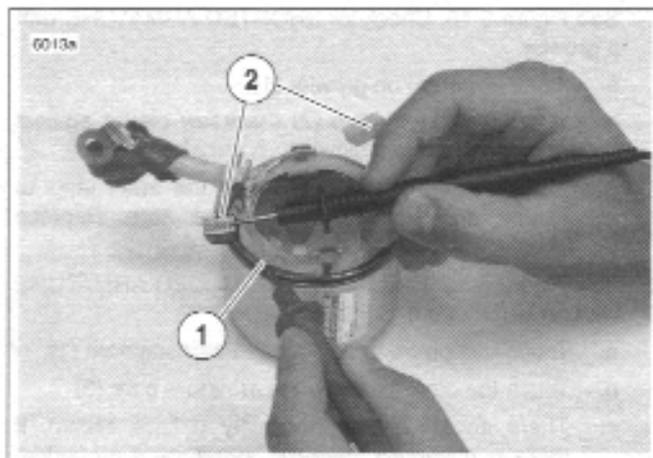
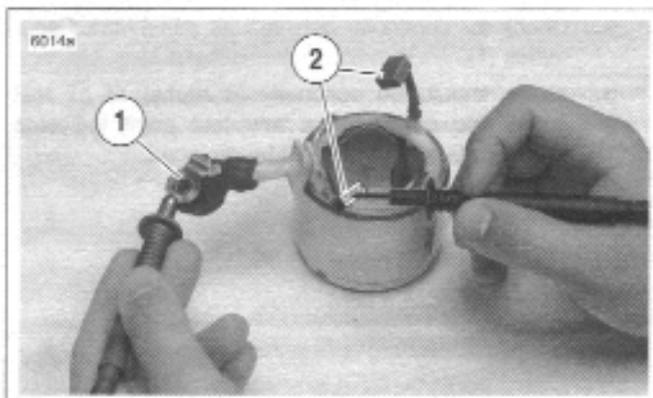
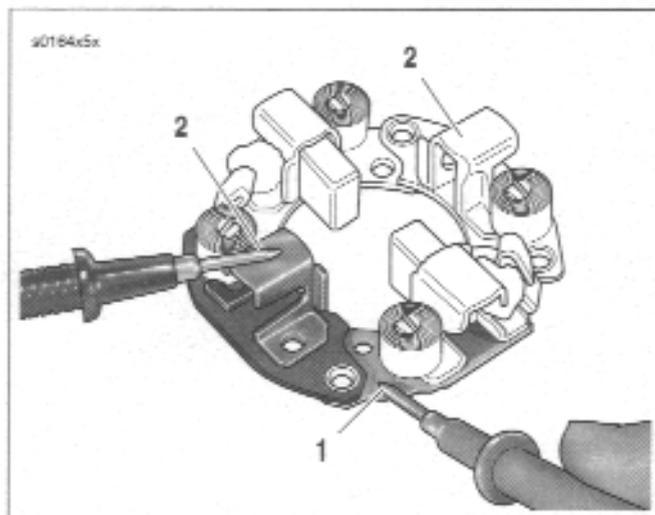
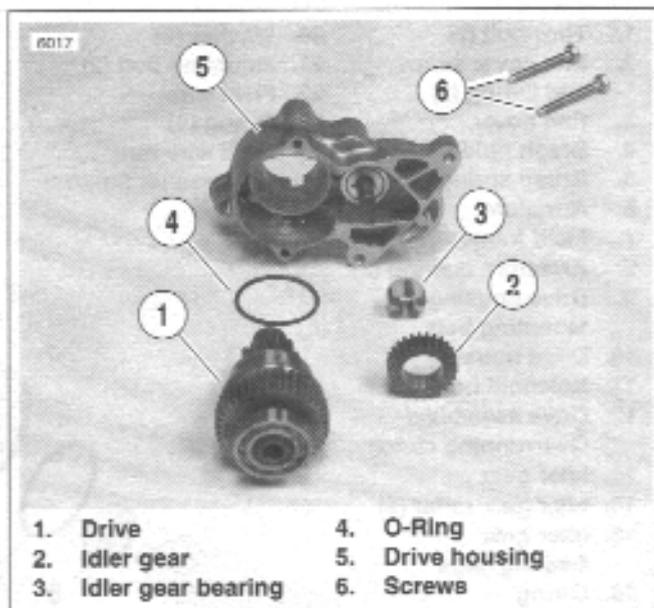

Figure 5-21. Grounded Field Test
Figure 5-22. Open Field Test
Figure 5-23. Brush Holder Insulation Test
Figure 5-24. Starter Drive Assembly
12. See Figure 5-21. Check for GROUNDING FIELD COIL with an ohmmeter or continuity tester.
- a. Touch one probe to the frame (1).
- b. Touch the other probe to each of the brushes (2) attached to the field coil.
13. See Figure 5-22. Check for OPEN FIELD COILS with an ohmmeter or continuity tester.
- a. Touch one probe to the field wire (1).
- b. Touch the other probe to each of the brushes attached to the field coil(s) (2).
14. See Figure 5-23. Test BRUSH HOLDER INSULATION with an ohmmeter or continuity tester.
- a. Touch one probe to holder plate (1).
- b. Touch the other probe to each of the positive (insulated) brush holders (2).
15. See Figure 5-24. Remove two drive housing mounting screws (6). Remove drive housing (5) from solenoid housing.
16. Remove drive (1), idler gear (2), idler gear bearing (3), and O-ring (4) from drive housing (O-ring is located in drive housing groove).
1. See Figure 5-24. Clean, inspect and lubricate drive assembly components. Lubricate parts with high temperature grease, such as LUBRIPLATE 110.